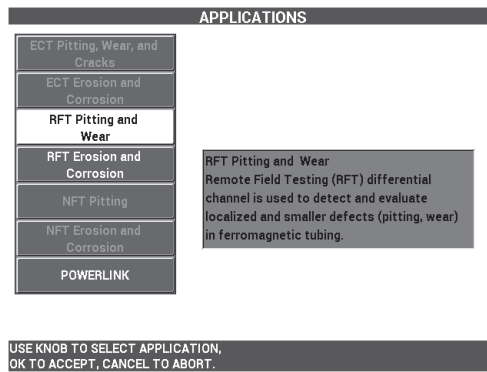

Figure 5-193 The RFT Pitting and Wear application
2. Select **CONTINUE** (press the A key), and then use the knob to select **RFT Pitting and Wear**, and press ✓ to accept (see Figure 5-193 on page 265).